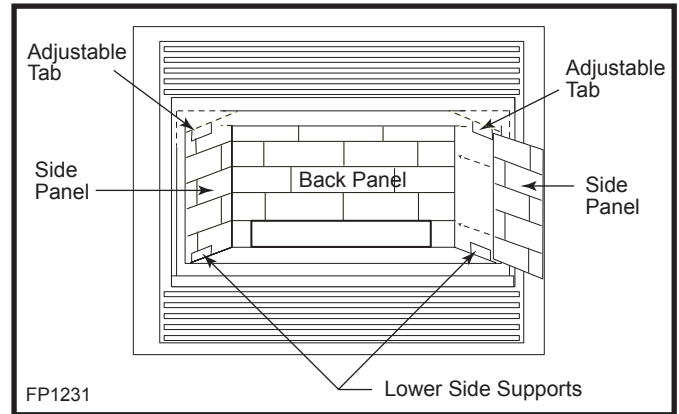

Fig. 54 Ceramic panel installation.
**Installation,** refer to Figures 54